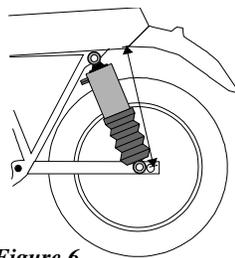

Figure 6
- Ride height. With the motorcycle on the center stand (rear wheel off the ground). Measure the distance from the center of the rear axle to point vertical on the frame (see figure 6). Now take the bike off the centerstand and load the motorcycle with the rider, passenger, luggage, accessories and trailer (if any) and re-measure the same points. With the motorcycle loaded, this measurement should decrease by approximately (1.0"-1.50"). Add or subtract air pressure to reach this recommended ride height (see step 4).